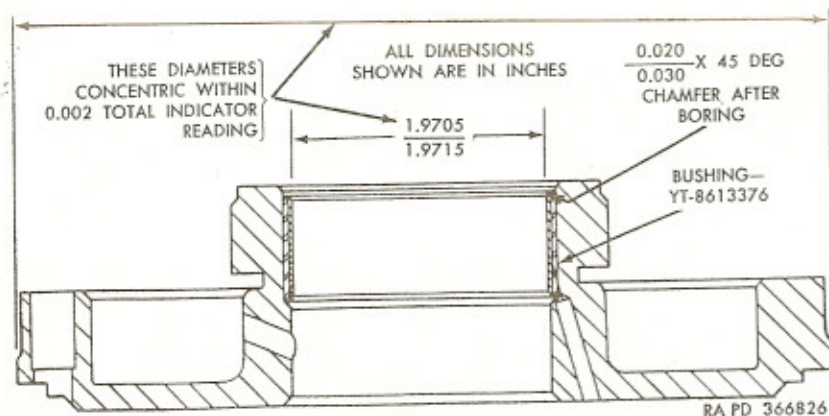

Figure 116. Sectional view of rear clutch drum assembly.
- (6) Inspect clutch drum assembly (B) for scores on piston contact surface. Inspect thrust surface for scores or damage. Check oil seal ring groove for damage. Check wear of bushing. If necessary to replace bushing (fig. 116), proceed as indicated in (a) through (c) below.
- (c) Check inside diameter of bushing (fig. 116) to dimension shown and finish as necessary.
- (7) Inspect clutch piston (E) for scores, cracks, or distortion. Make sure oil seal ring groove is clean.